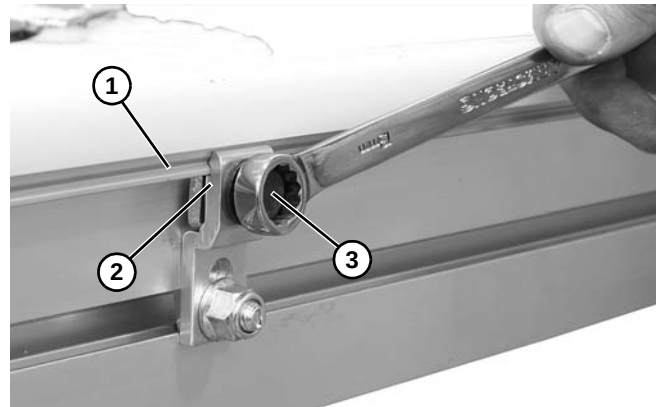

Figure 40
5. Attach guiding (**Figure 40, item 1**) to clip (**Figure 40, item 2**) and tighten screw (**Figure 40, item 3**).